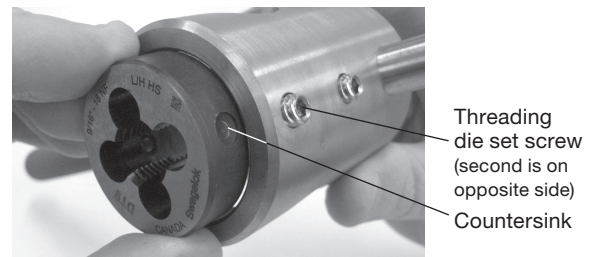

Fig. 15 Aligning threading die countersinks
4. Remove the threading die from the housing. (Fig. 15)
1. Position the appropriate threading die at the opening on the housing with the marked side facing out. Align the threading die countersinks with the 1/4 in. threading die set screws, and then slide the die into the housing until it bottoms. (Fig. 15)